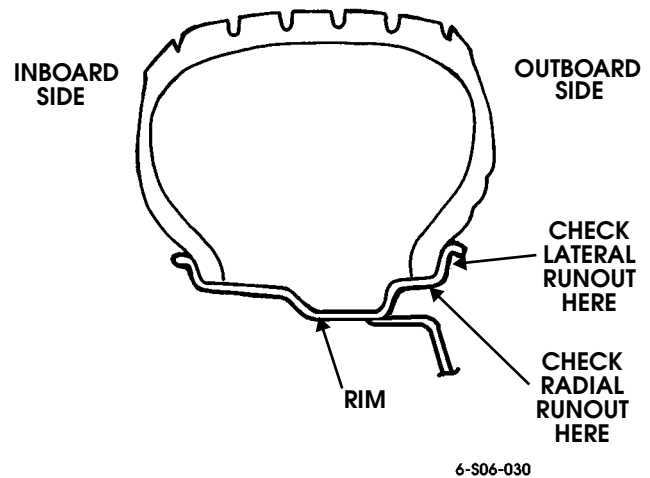

Figure 6-38: Wheel Runout Inspection Points
5. Rotate the assembly one more complete turn and record the indicator reading (Figure 6-38).